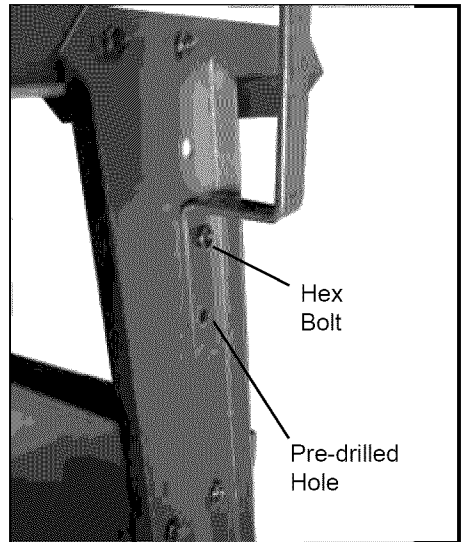

Fig 8.
13.  Find one of the cable holders. Position the cable holder so the pre-drilled mounting holes in the cable holder align with the pre-drilled mounting holes in the Left Side Vertical Panel so that the opening of the cable holder is up (Fig 8). Using a hex bolt, slide the bolt through the pre-drilled holes in the cable holder and into the matching pre-drilled holes in the Left Side Vertical Panel. Secure with a Hex Nut. Repeat for the other mounting hole. Repeat on the right side.